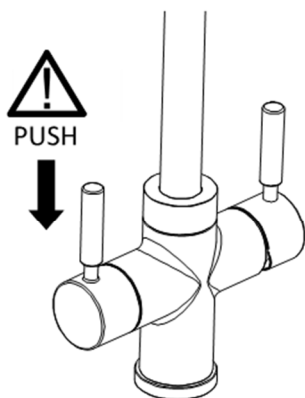
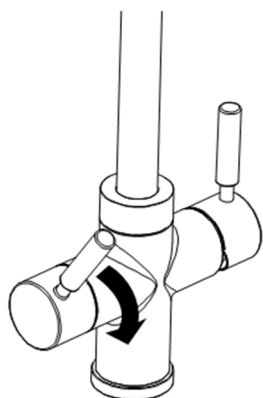

Fig 1.
Fig 2.
- **Hot (boiled & filtered) water** Fully push the left side handle lever down (Fig. 1) and then simultaneously turn the handle forwards (Fig. 2), the further forwards the lever is turned the greater the flow. It is normal for the hot water to take a moment to start and stop dispensing as the water empties from the product after use.